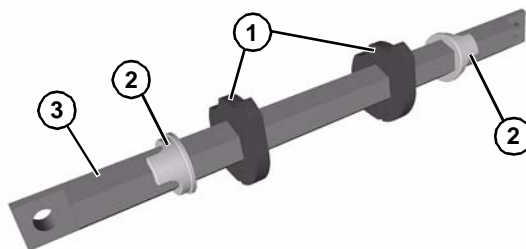

Figure 11
1. Slide stop keys (Figure 11, item 1) and tip up sleeves (Figure 11, item 2) onto hex shaft (Figure 11, item 3). The tabs on the tip up sleeves face outward and align with the slotted ends of the hex shaft as shown.